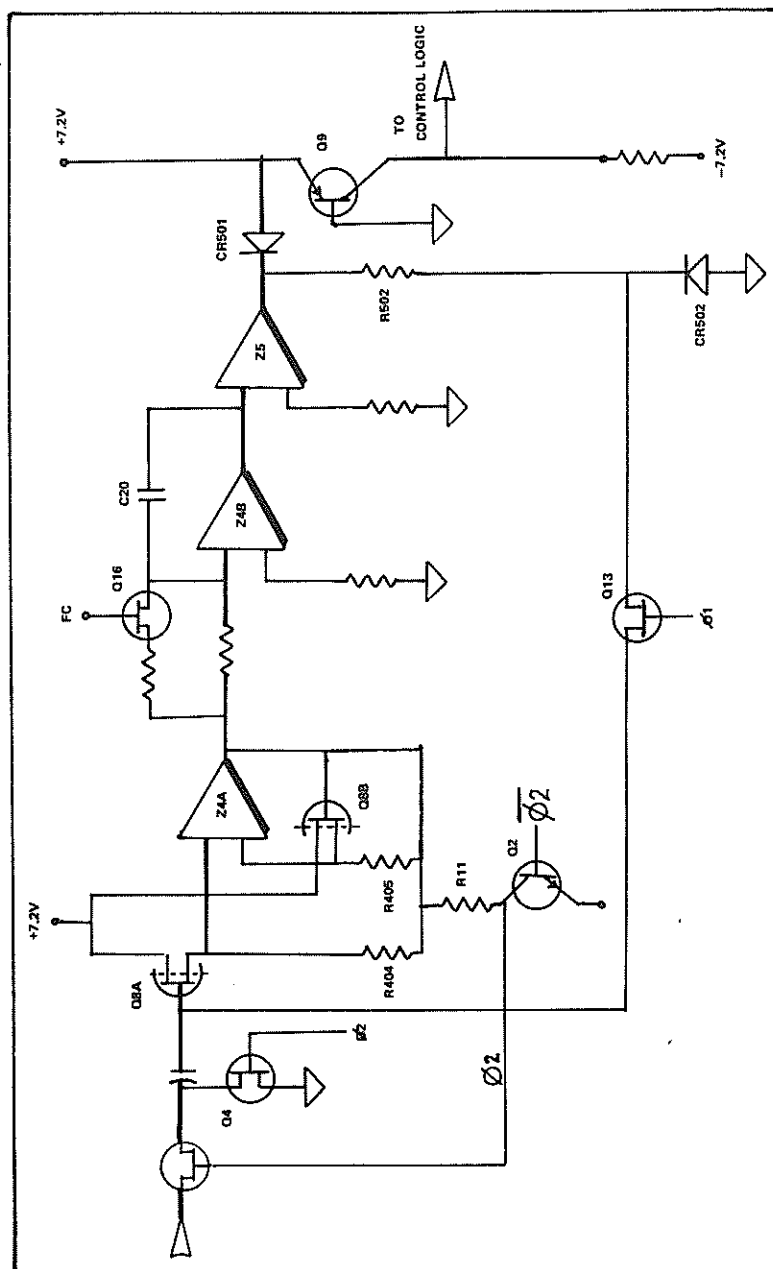

Figure 3-7. A/D Converter (Analog) Simplified Schematic
The simplified schematic of Fig. 3-7 illustrates the operation of the analog portion of the Tri-phasic analog-to-digital converter. This portion consists of three major operational elements: (1) unity gain buffer amplifier Z4A, preceded by matched high impedance input FET's Q8A and Q8B; (2) high-gain operational amplifier Z4B, connected as an integrator with integrating capacitor C20 in the feedback path, and (3) high-gain comparator Z5 driving to saturation for a small difference in potential between the integrator output and the ground reference. During phase 1, the three
- b) The gate formed by R40 and CR18 produces a high level output for the FC signal. The FC control signal activates FET switch Q16 (figure 3-7) and introduces a fast time constant in the integration path in order to reduce the remaining charge on integrating capacitor C20.